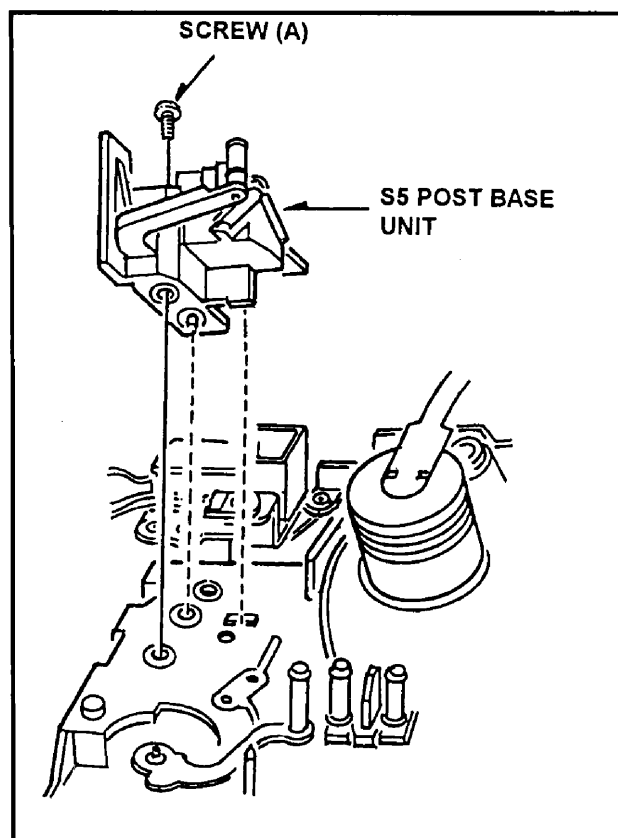

Fig.M23
2. Unscrew the screw (A) and remove the S5 Post Base Unit as shown in Figure M23.